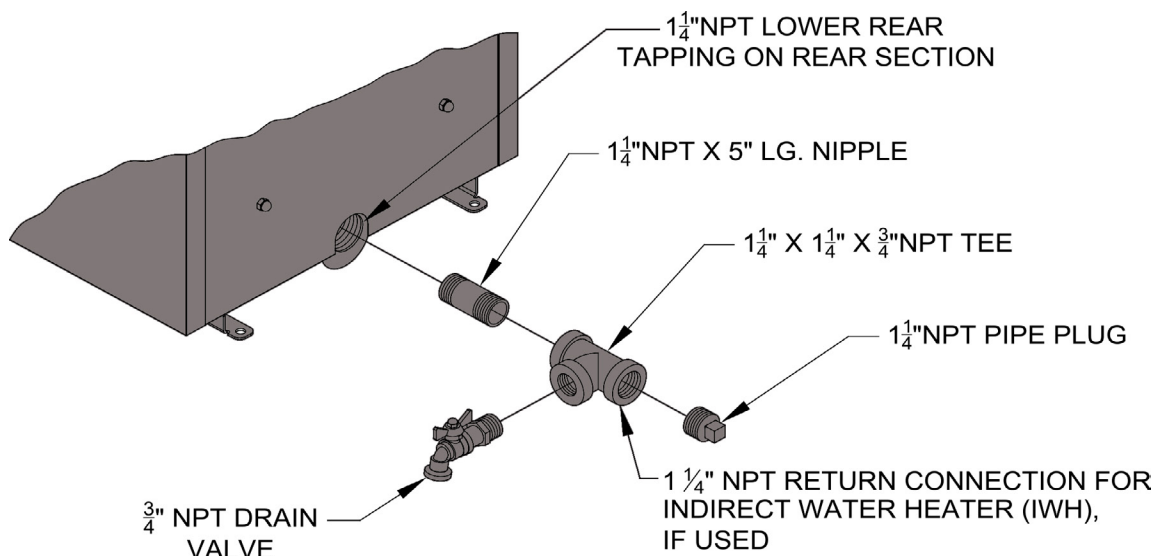

Figure 2-6: Piping Arrangement for Drain Valve and Indirect Water Heating Return
2. Install drain valve and indirect water heater return piping, see Figure 2-6.